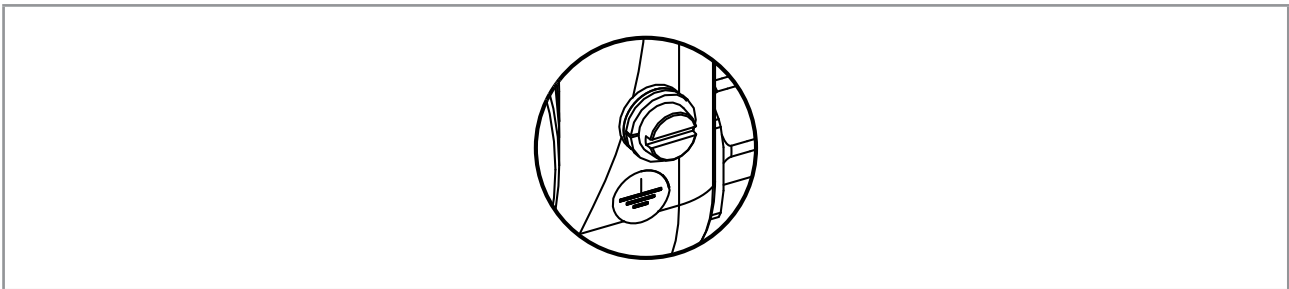

Figure 31: Functional earth screw on the outer surface of the device
- or to the functional earth screw on the outer surface of the transmitter housing (see Figure 31).